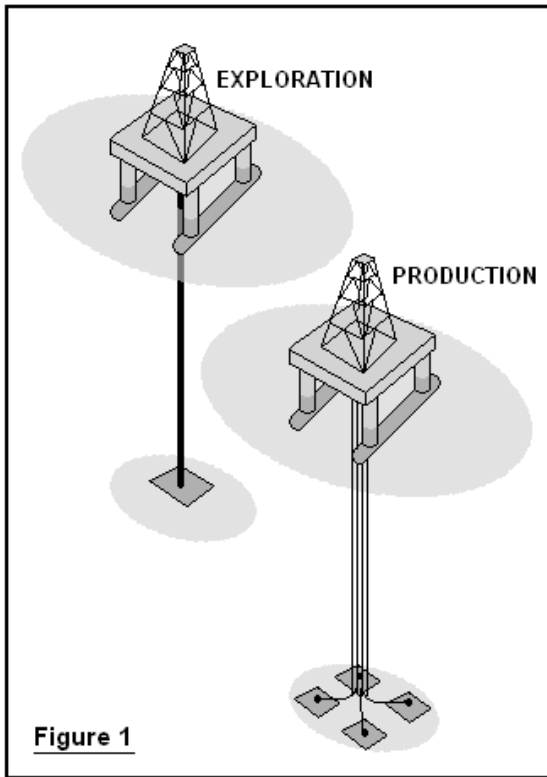

Figure 1
1.0 There are two basic types of offshore operations, as shown in **Figure 1** on Page 4: